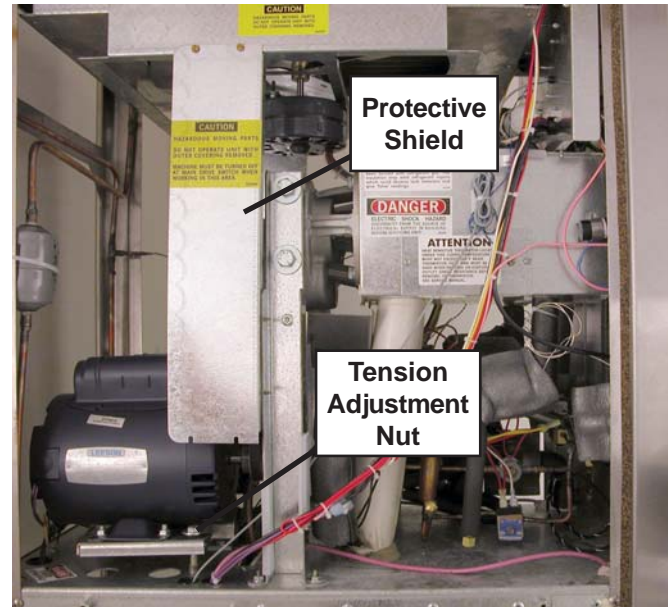

Figure 6-5 Motor Removal
5. Remove protective shield from side of machine. (Refer to Figure 6-5)
6. Loosen the belt tension adjustment nut and remove the belt. (Refer to Figure 6-5)